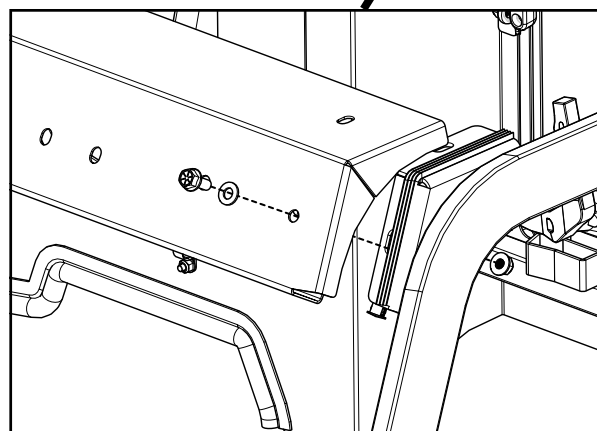

Fig. 8.2 (Windshield Support Installation)
8.2. Install lower bolts only in windshield support. Upper bolts are installed during roof installation at step 10. Fig 8.2. Tighten at this time.